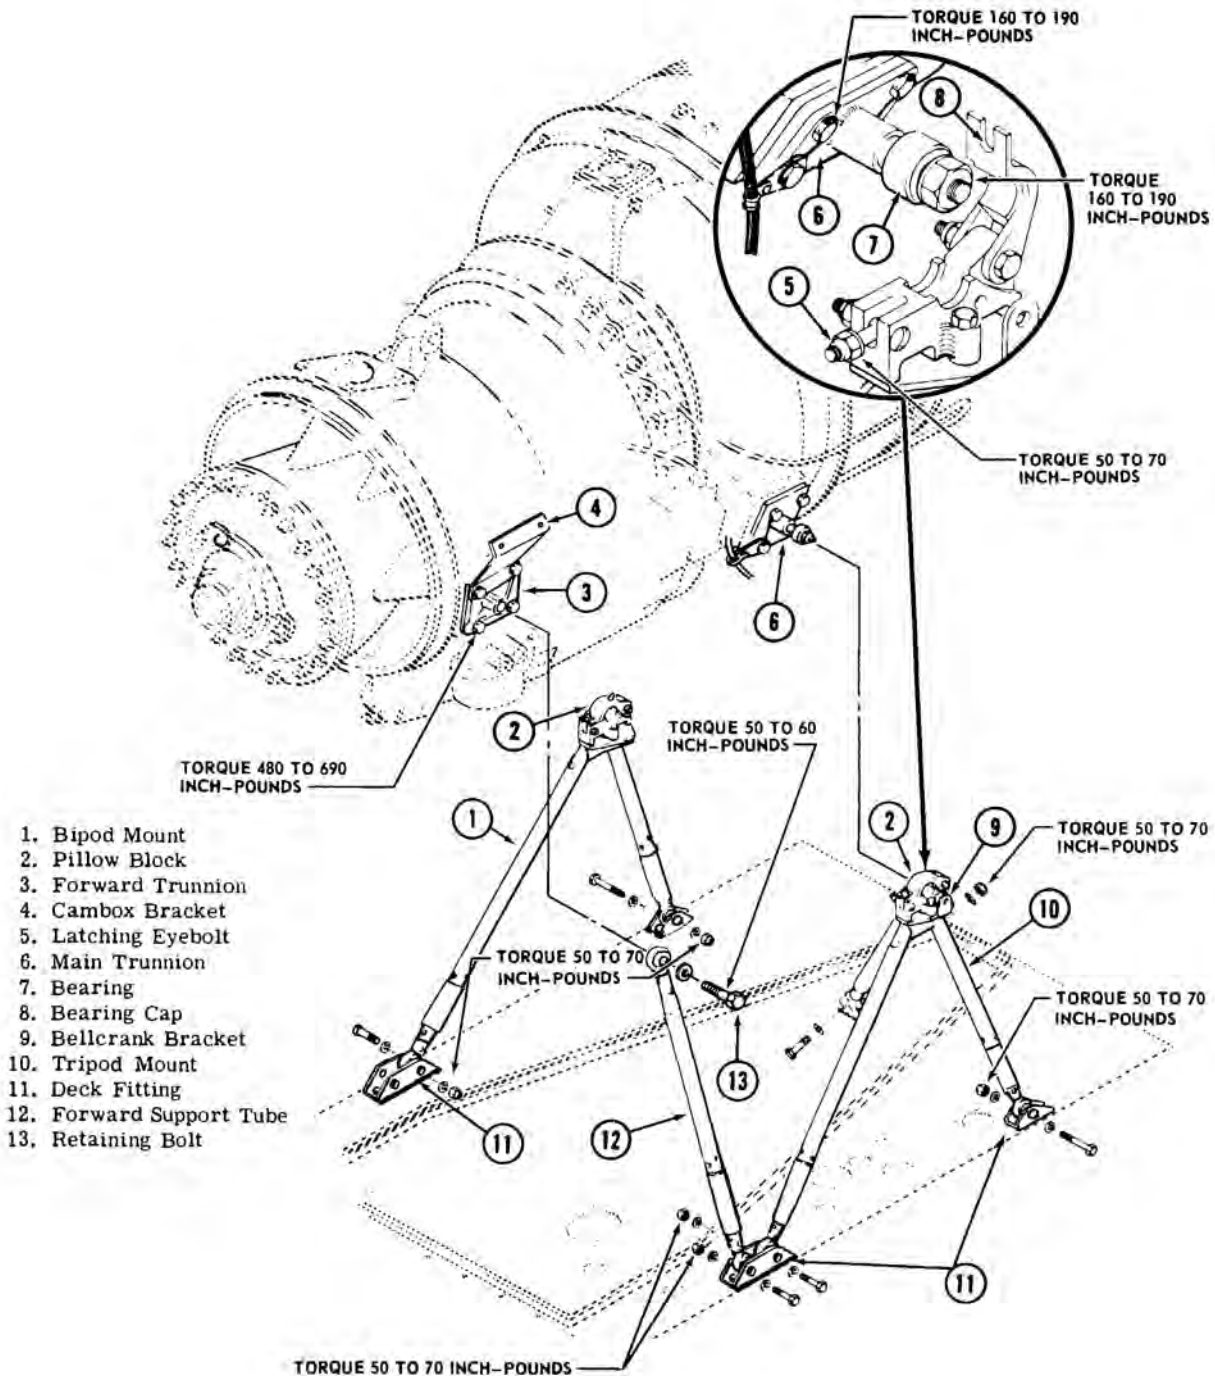

Figure 71-10. Engine Mounts
LEAVE DECK FITTINGS (11, FIGURE 71-10) IN PLACE EXCEPT WHEN REMOVAL IS REQUIRED FOR INSPECTION REPLACEMENT, ADJUST TURNBUCKLE ASSEMBLY TO CORRECT DRIVESHAFT ALIGNMENT.
71.3.1.1.3 Remove bolts, washers, and nuts securing mounts (1, 10, and 12, Figure 71-10) to the airframe deck fittings (11).
71.3.1.3.1 Check installation of deck fittings (11, Figure 71-10). Place rod ends of tripod mount (10) in three fittings at left and rear of deck. Install close tolerance bolts with washers under heads and nuts.